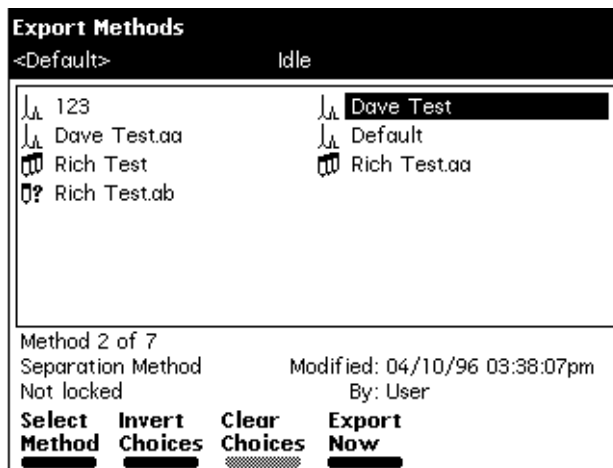

Figure 4-8 Export Methods Screen
3. Press the **Export Methods** screen key. The Export Methods screen appears, displaying a list of currently stored methods (Figure 4-8).